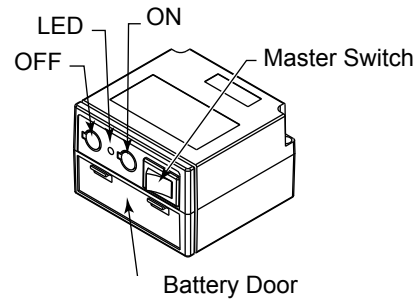

Figure 48 - Signature Command System Components
The wall switch wire connection is located off the 2 ft. wire harness from the control box to the command center. *Figure 48.* The connection is labeled "Wall Switch". Unplug the male and female connectors and connect the two (2) low voltage wires not provided. Run wire to desired location on wall. Up to 50 ft. of 18 ga. wire may be used if necessary. Attach wires to wall switch. Mount the wall switch in to junction box and screw on cover.